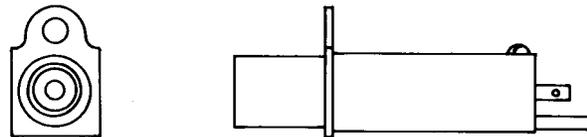

Fig. 14—470B or C Jacks
2.14 **470B and C:** These single-mounted jacks (Fig. 14), each having coaxially arranged inner and outer contacts, are arranged for use with the 337B plug. The terminal end is arranged for wire connections. This jack is not intended for connection to a coaxial cable.